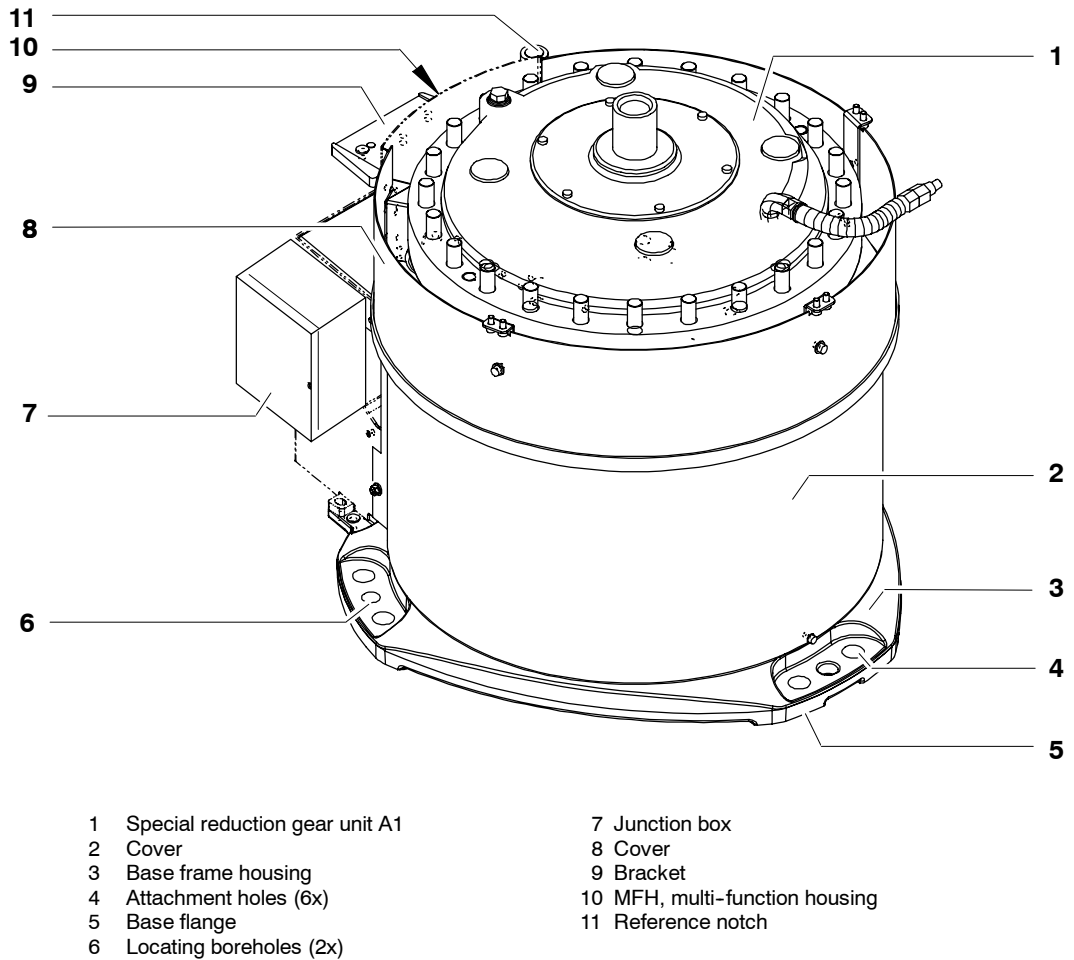

Fig. 11 Structure of the base frame
The base frame (Fig. 11) is the stationary part of the manipulator, on which the rotating column turns with the link arm, the arm and the wrist. Its base flange (5) features through-holes (4) for holding the manipulator down and two locating boreholes (6), with which the manipulator can be placed on two locating pins (accessories, see Chapter 7, "Installation").